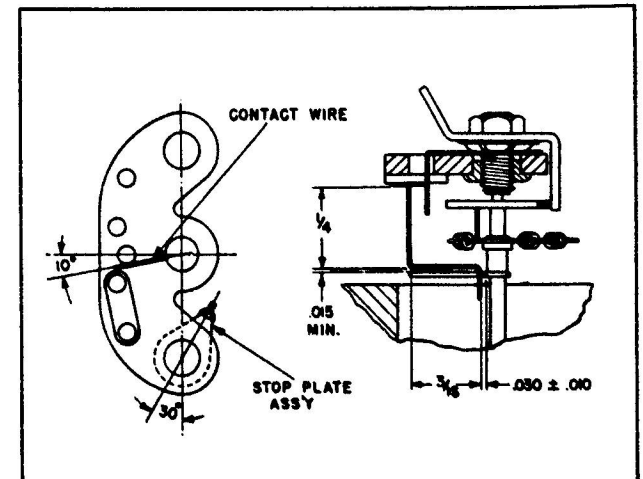

Figure 4-6 Position of Stationary Contact Wire and Stop Plate Assembly
d. If contact wire is defective, or if relay has had 3000 hours of service, unsolder wire. Solder new wire (Edison No. NA20817) in its place and bend to shape. (See figure 4-6.)
ad. Solder the outer turn of the hairspring to the setting lever, keeping the hairspring parallel to the bridge. (See figure 4-6.)
a. Bend the stationary contact wire (25) to the proper position. (See figure 4-6.)